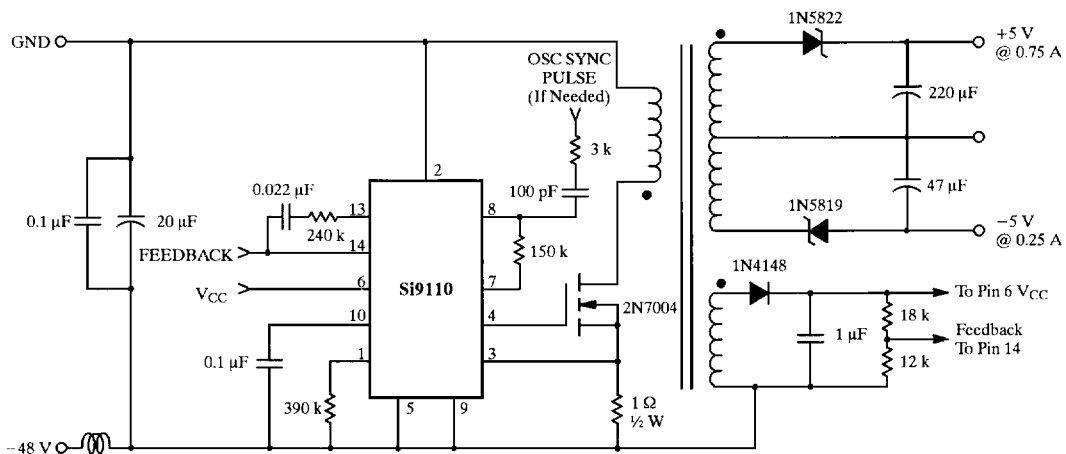

Figure 4. 5-Watt Power Supply for Telecom Applications
**Note:** During start-up or when  $V_{CC}$  drops below 8.6 V the start-up circuit is capable of sourcing up to 20 mA. This may lead to a high level of power dissipation in the IC (for a 48-V input, approximately 1 W). Excessive start-up time caused by external loading of the  $V_{CC}$  supply can result in device damage. Figure 4 gives the typical pre-regulator current at BiC/DMOS as a function of input voltage.